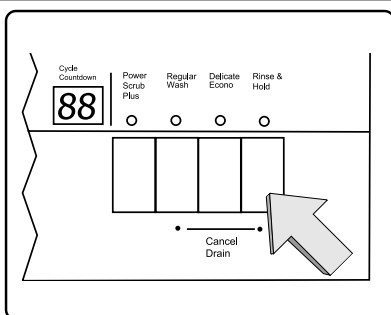

Figure 32/Illus. 32
1) Press and hold the right-most of the two buttons labelled "Cancel Drain", as shown in Figure 32, then press and hold the "On/Off" button. The LED display will show a number between 0 and 6.